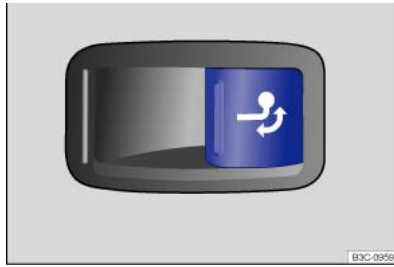

Fig. 192 On the right of the luggage compartment: button for releasing the ball coupling.
- Briefly pull the button \Rightarrow *Fig. 192* on the right-hand side of the luggage compartment. The ball head is released electrically and folds out automatically. The indicator lamp in the button flashes.
- Briefly pull the button \Rightarrow *Fig. 192* on the right-hand side of the luggage compartment. The ball head is electrically unlocked.
- If the indicator lamp in the button \Rightarrow *Fig. 192* is *lit up permanently* when the boot lid is open, the ball head is correctly engaged in the extended or retracted position.
<p>Improper use of the towing bracket can cause injury and accidents.</p> <ul style="list-style-type: none"> • Only use the ball head if it has clicked into place properly. • Ensure that no people, animals or items are in the path of the ball head. • Never interrupt the ball head, for example with tools, when it is swivelling. • Never press the button \Rightarrow Fig. 192 if a trailer is attached or if a luggage rack or other accessories are fitted to the ball head. • If the ball coupling does not engage properly or there is a fault in the electrical system or the towing bracket itself, do not use the towing bracket and have it checked by an authorised workshop. • Never use the towing bracket if the diameter of the ball is below 49 mm at the smallest point.